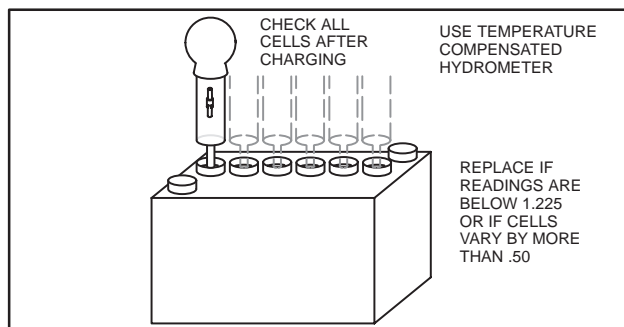

Fig. 42 – Checking 12 V Battery Cells (Lead Acid, Wet Cell, With Fill Caps)
3. With battery fully charged, check specific gravity readings of each cell with a Battery Hydrometer and record readings, Fig. 42. Readings should be above 1.250 (compensating for temperature). If specific gravity readings varied .50 or if all cells read less than 1.225, replace battery.